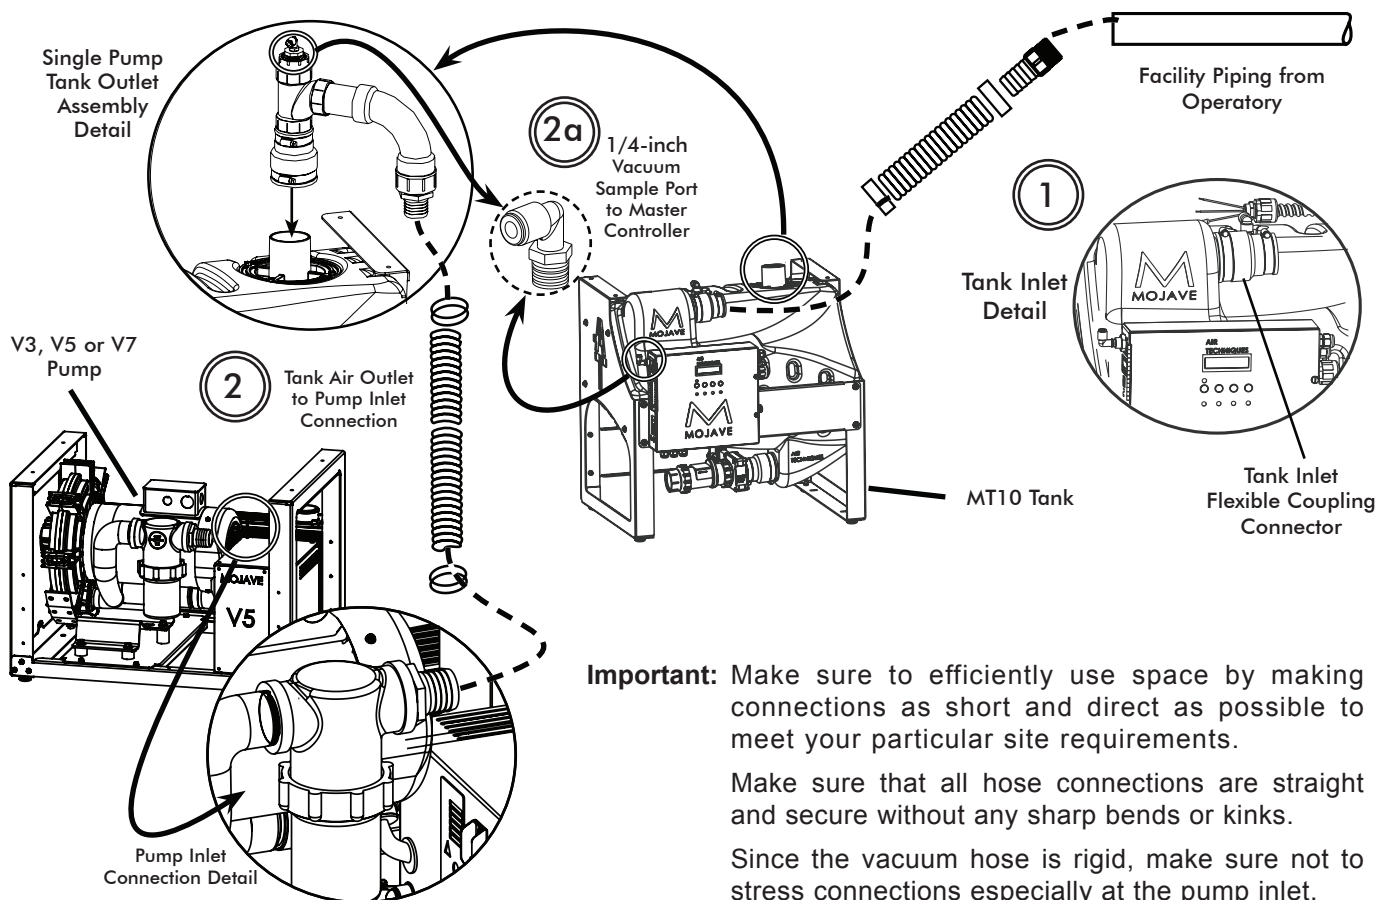

Figure 9. MOJAVE V3/V5/V7 Pump and MT10 Tank Connection Diagram, Sheet 1
- c. Install a length of 1/4 inch OD Urethane Tubing (P/N 51453) between the vacuum sample port and the vacuum inlet port of the Master Controller. See Figure 9, item (2a).
3. **Heat Exhaust Vent Connection.** Refer to Figure 9, item (3) and connect the vent hose (P/N 56057) between the pump heat exchanger and the facility vent line. Secure with two hose clamps (P/N 89324).